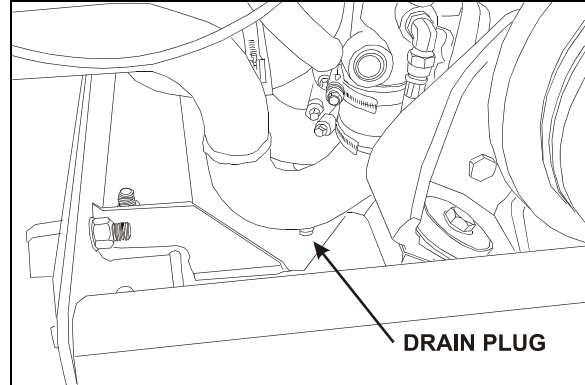

FIGURE 7: WATER PUMP DRAIN PLUG 05093
3. Unscrew the water pump housing inlet line drain plug (Fig. 7).